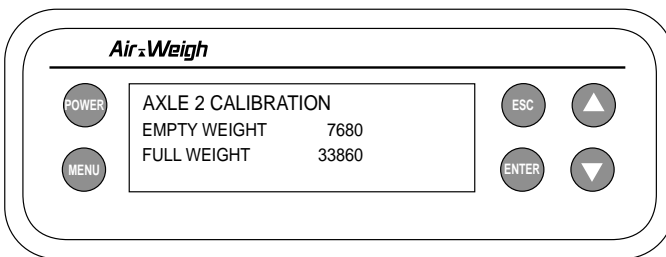

Fig. 16
6. Use the arrow keys <▲ ▼> to select either EMPTY WEIGHT or FULL WEIGHT, as appropriate, press <ENTER>. (See fig. 16)